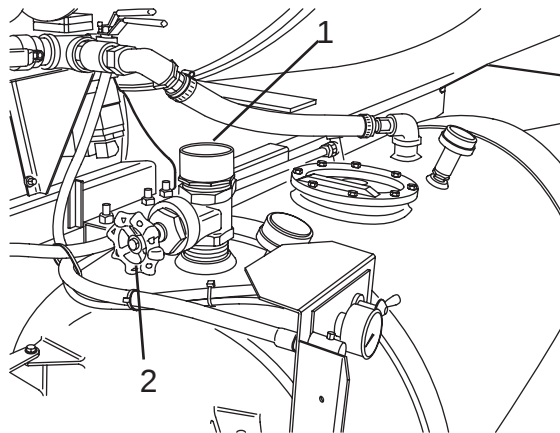

Figure 88
2. Open the chemical tank gate valve (Figure 88, Item 2) and fill the chemical through the inlet (Figure 88, Item 1).
3. Connect a water supply hose to the inlet (Figure 88, Item 1) and fill tank.